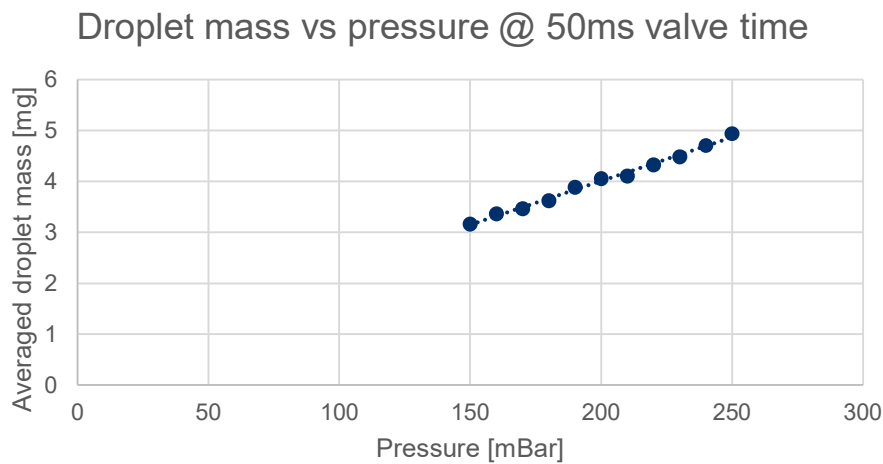

Figure 7. Droplet mass vs reservoir pressure P_r for water
- Increase in dose with increased reservoir pressure. This trend is shown in more detail in Figure 7